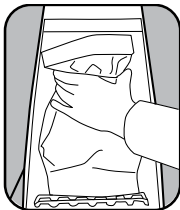

Fig. 2
2. Remove the bag by grasping the sides of the bag collar and pulling straight off. Attach a new vacuum bag by pushing the collar onto the inlet (Fig. 2).